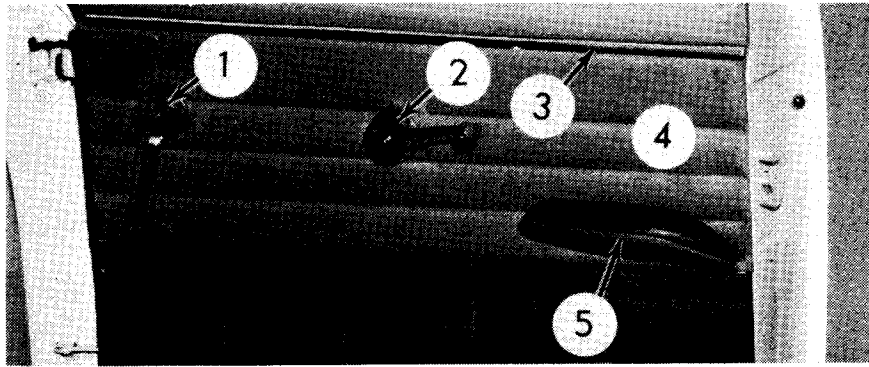
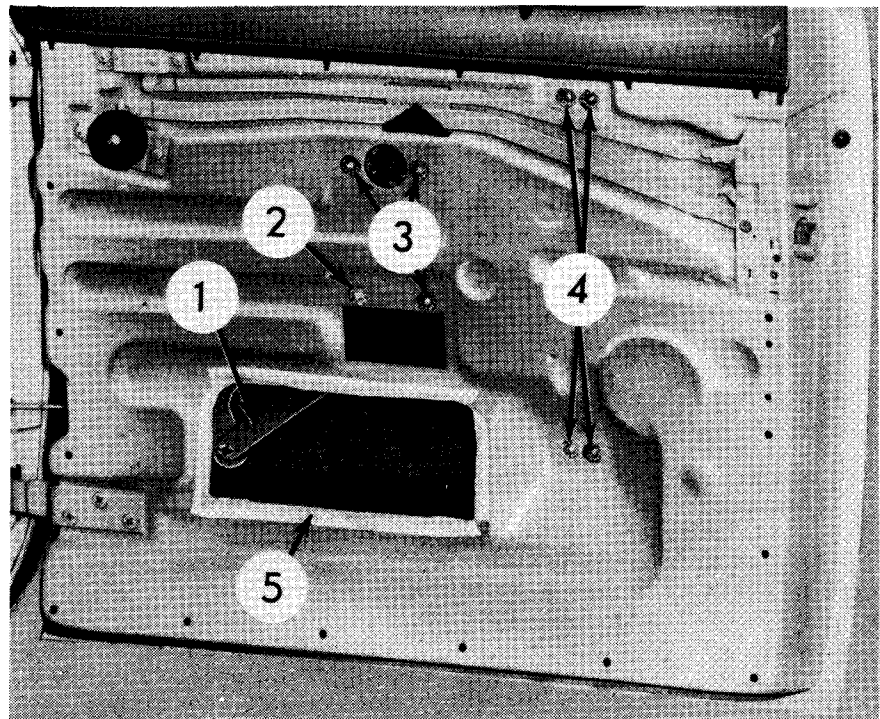

FIG. 10
FIG. 11
1. Remove the door lock remote control handle (1, Fig. 10), window regulator handle (2), and arm rest (5).
2. Pry the fasteners from the holes in the door inner panel and remove the trim panel (4) by sliding it down from beneath the trim strip (3). Do not remove the trim strip.
3. Tape the edges of the large inspection holes (5, Fig. 11). This is to protect you from sharp, irregular, unfinished parts of the four recessed flanges.
tor screws and lock washers. The three Phillips-head screws (3, Fig. 11) are the same length. The fourth screw (2) is a large, slotted-head screw. It also acts as the window stop screw. Remove rubber gasket from regulator shaft.
12. Remove the four vent window run bracket screws (4, Fig. 11).